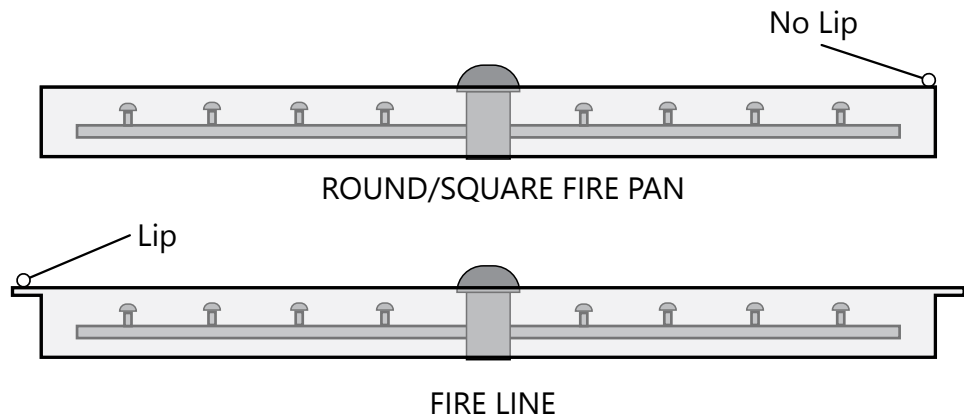

FIGURE 3: FIRE LINE VS FIRE PAN
- Rectangular fire lines have a lip that can be used to support during installation. Round and square fire pans should be supported at the bottom of the pan. (FIG 3)